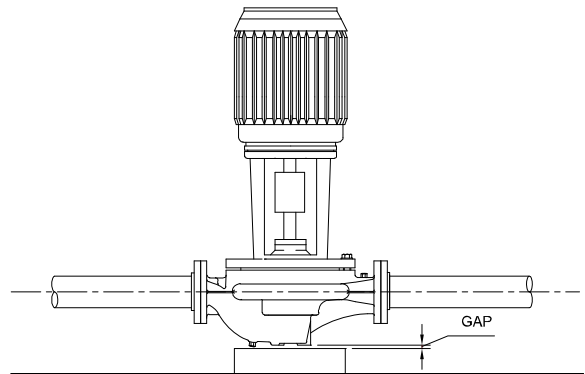

Fig. 2.6 Additional floor support
- 2.6 Where required, additional floor support may be used as shown in Fig. 2.6. Note that the pump should not be rigidly attached to the column. Leave a small gap between pump and column or install a 'waffle' isolation pad under the pump. It is critical that piping be installed in such a manner that the pump does not become a pipe support.